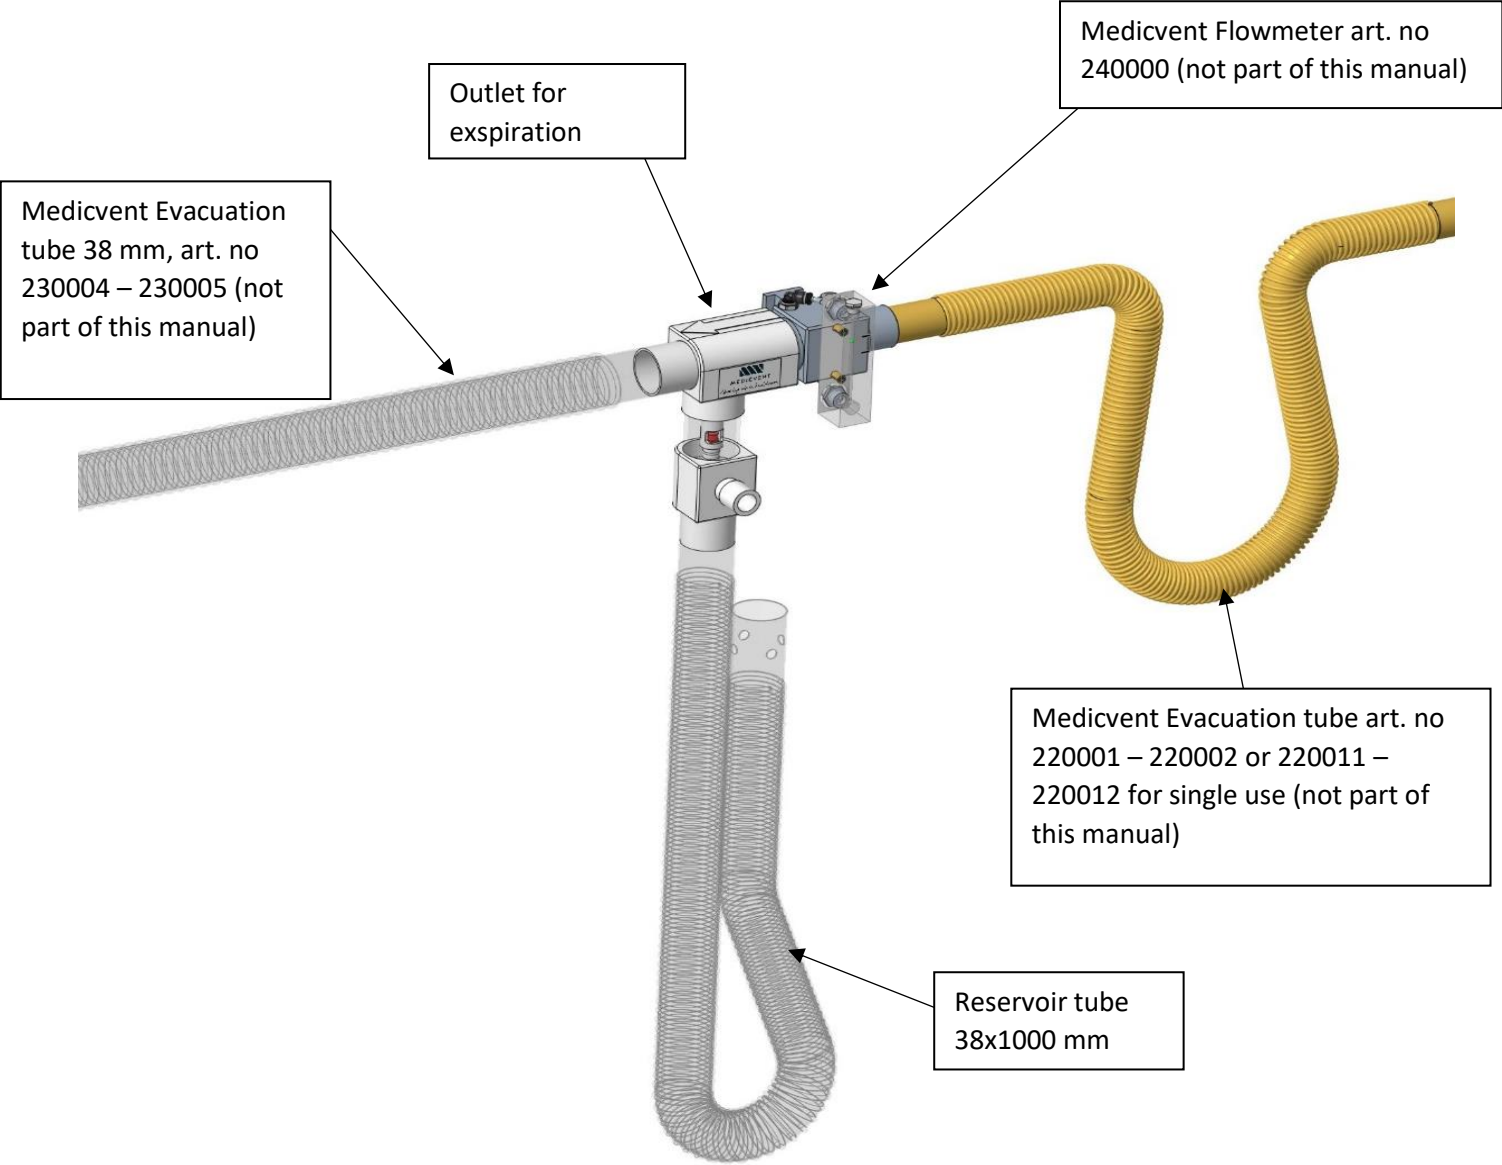

Figure 3: Mounted outlet
1. See figure 3.
Instructions (see figure 3):